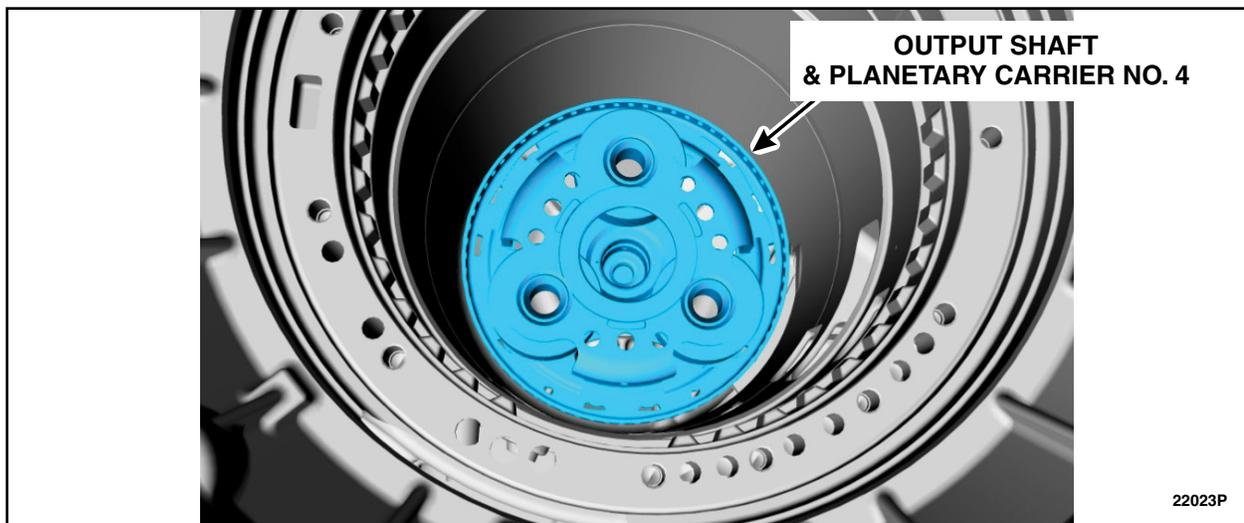

FIGURE 22
25. Remove the output shaft and planetary carrier No. 4 assembly. See Figure 22.